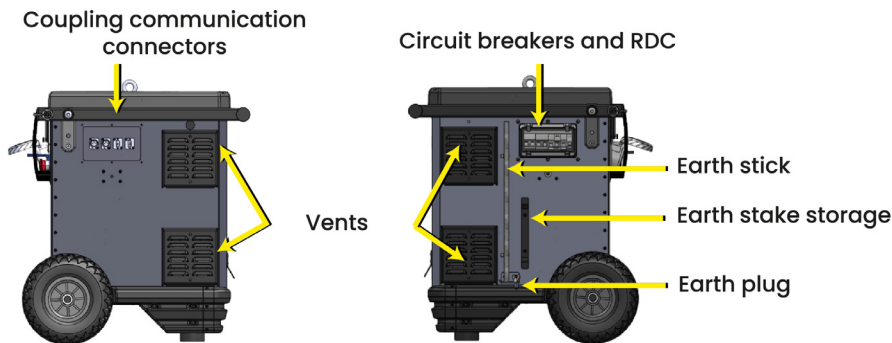

Figure 3 : Lateral surfaces of the device
- Make sure that the air/ventilation intakes (see §II.3. Figure 3) on the device are not obstructed.
- Connect the device to earth, using an earth rod (see §II.3. Figure 3).
- Check that the device is working. The value displayed on the load level screen must not exceed 8000W (see II.3. Figure 3) and check the remaining operating time.